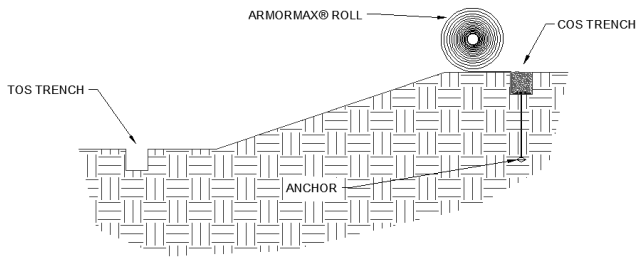

Figure 5: Crest of Slope (COS) Trench Placement
- Backfill and compact the COS trench in the location of the first **PROPEX** Armormax panel only (Figure 5).